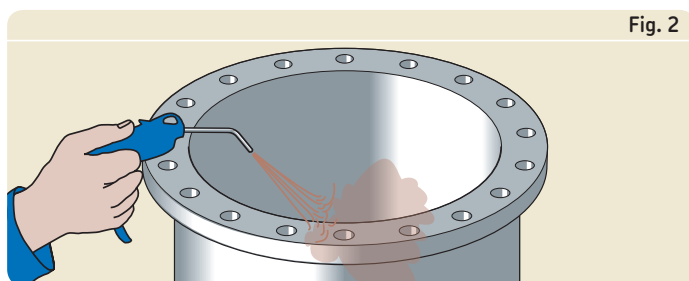

Fig. 2
- 2 Clean the seat surfaces with compressed air. Make sure that the surfaces of the support structure and the bearing are clean and dry (→ **fig. 2**).